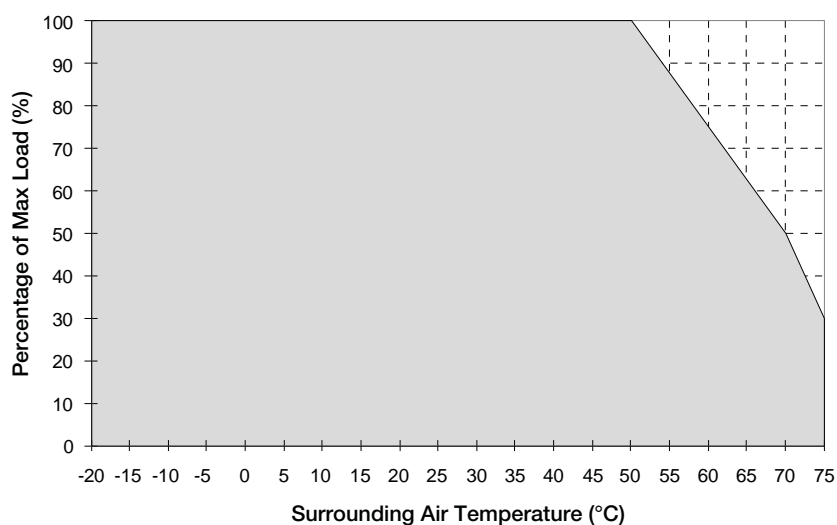

Fig. 1.1 De-rating for Vertical Mounting Orientation
1. Power supply components may degrade, or be damaged, when the power supply is continuously used outside the shaded region, refer to the graph shown in Fig. 1.1.